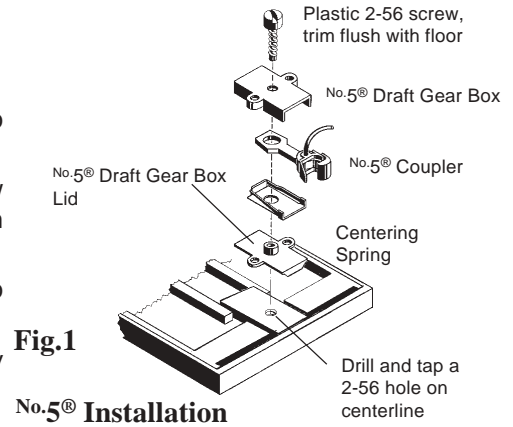

Fig.1
3. Assemble the No.5® Coupler with spring on top. Use a 2-56 plastic screw to secure No.5® Coupler assembly. See Fig.1. Trim protruding screw flush with floor after coupler is secured.